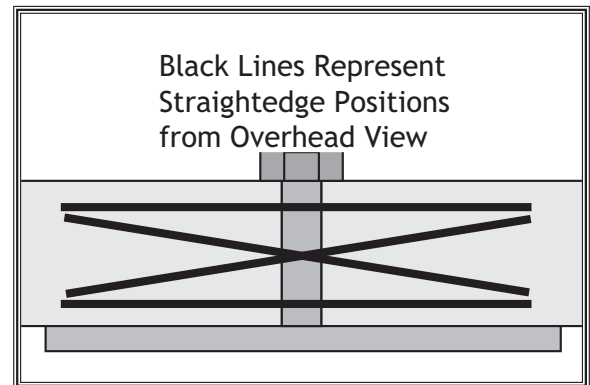

Figure 54. Straightedge positions for checking infeed/outfeed parallelism.
4. Place the straightedge in the positions shown in **Figure 54**. In each position, the straightedge should sit flat against both the outfeed table and the infeed table.
9. Place the straightedge in one of the positions shown in **Figure 54**, and adjust the eccentric bushings under the infeed table so the straightedge lies flat against both tables. Repeat this step with each of the remaining straightedge positions as many times as necessary until the infeed table is parallel with the outfeed table.